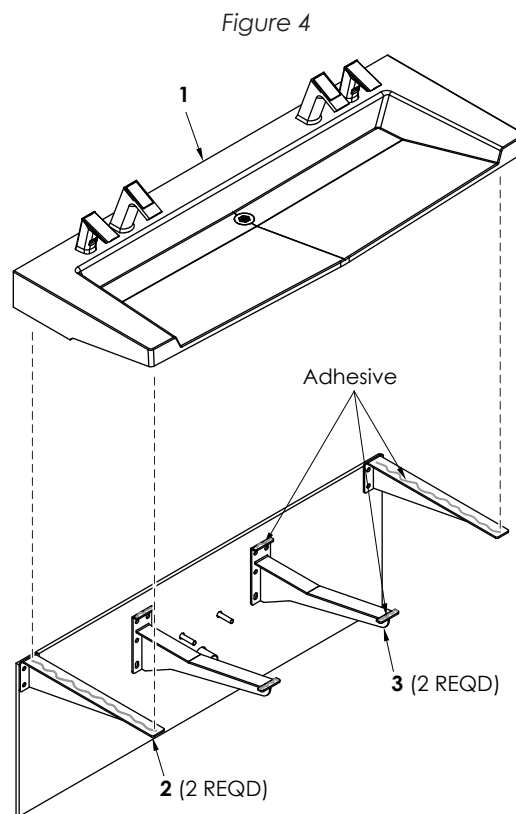

Figure 4
4. Install Deck (1, Figure 4) onto Side Bracket (2).
- a. Apply adhesive (not supplied) to the top of all brackets where contact is made with Deck (1).
- b. Lower Deck (1) onto Side Bracket (2). Shim all gaps between Side Bracket (2), Middle Bracket (3) and Deck (1).